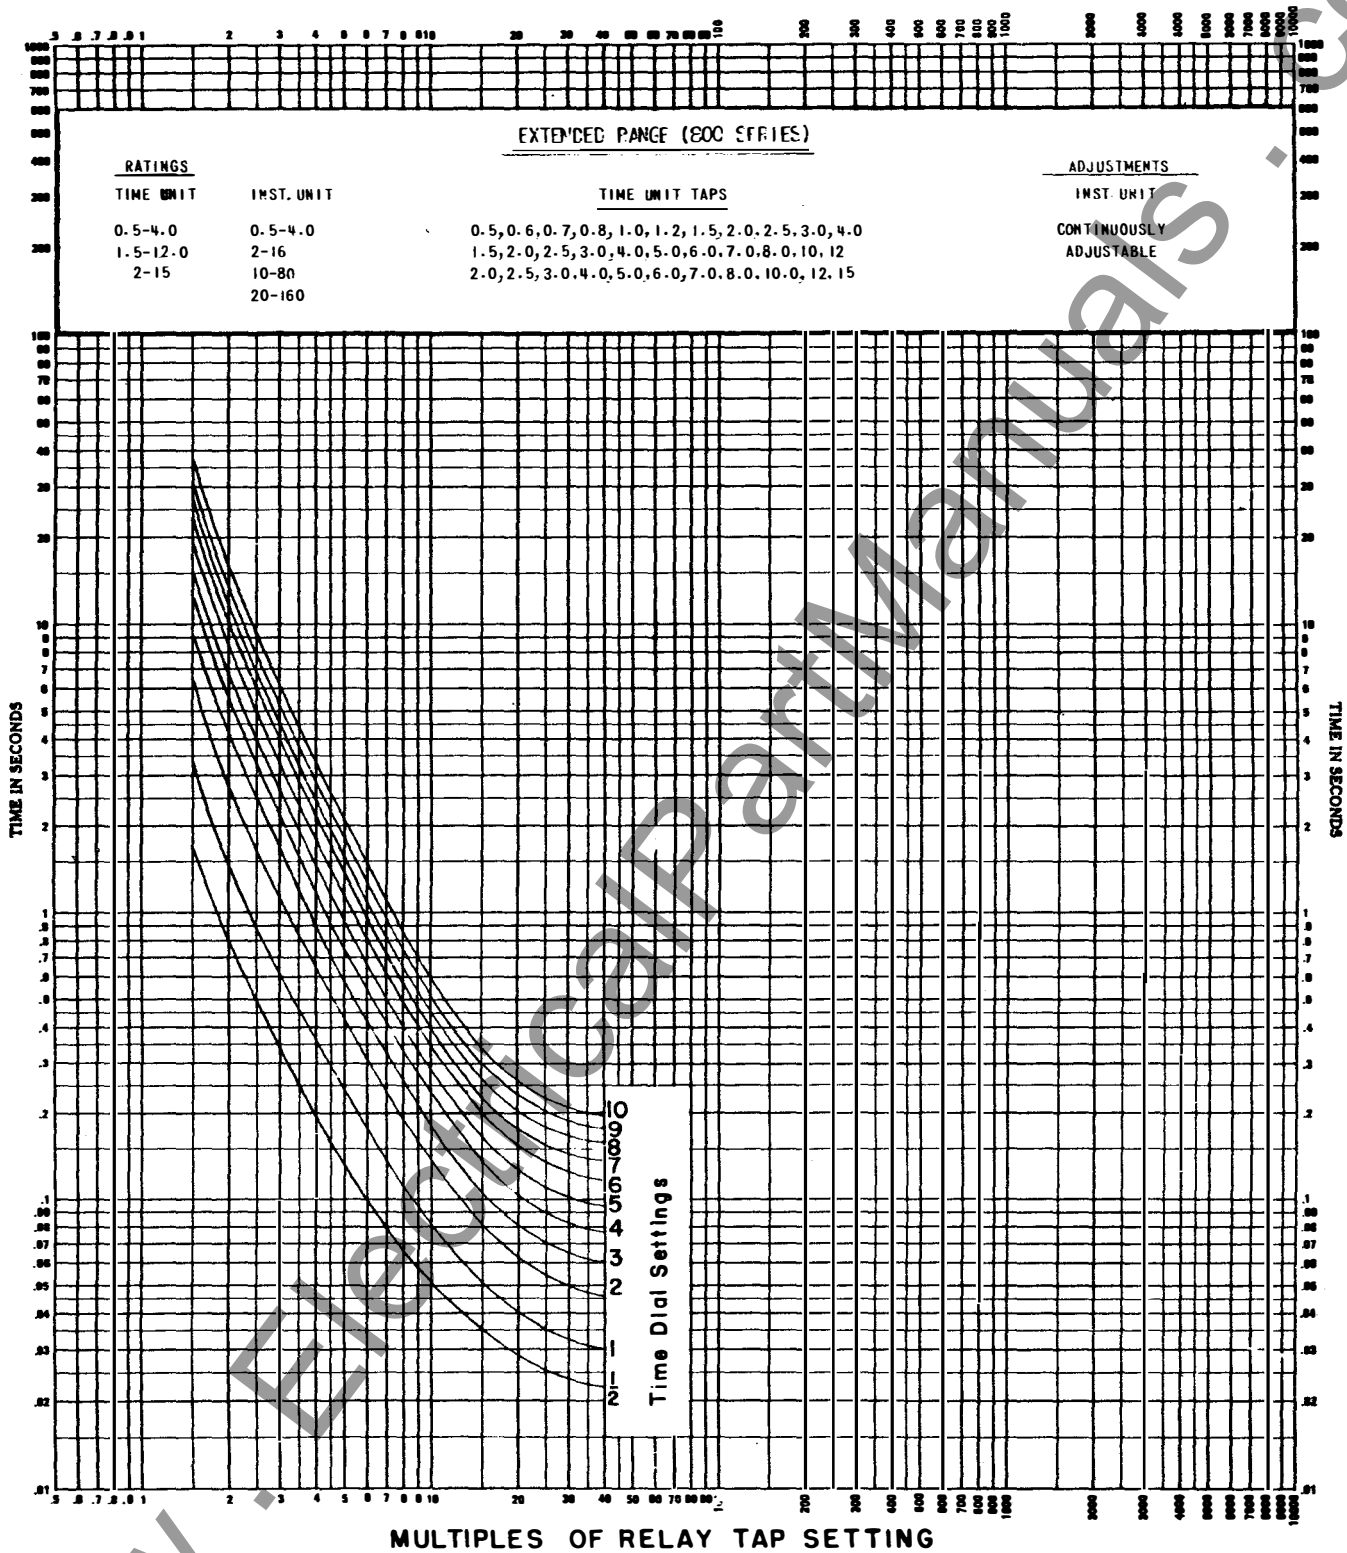

Figure 15 (0888B0274-5) Time-current Characteristic of Extremely-Inverse-Time Overcurrent Unit
- Figure 15 (0888B0274-5) Time-current Characteristic of Extremely-Inverse-Time Overcurrent Unit